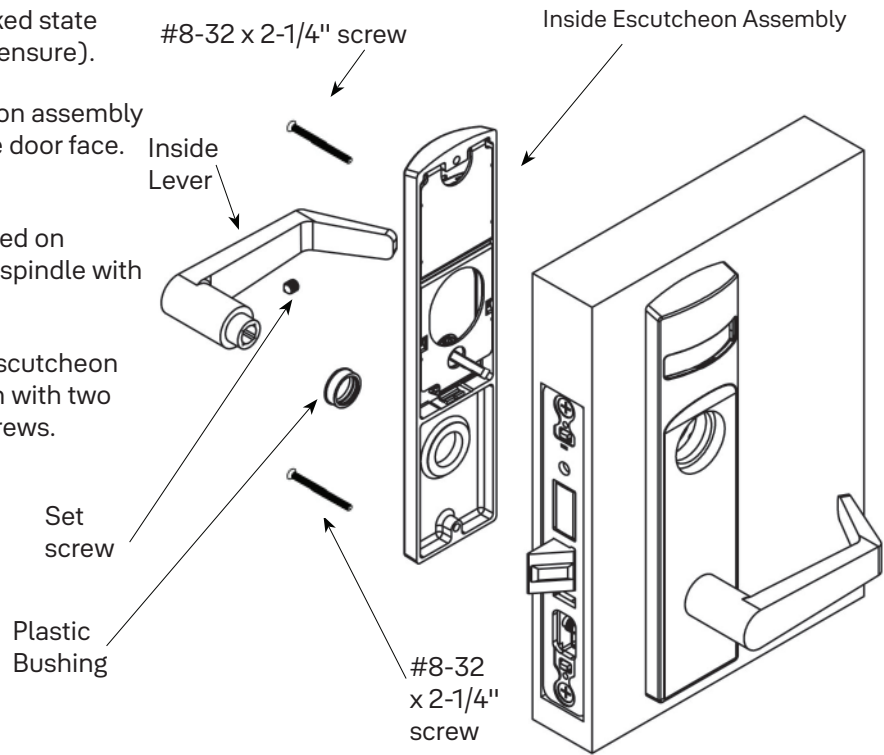

Figure 8
2. Align inside escutcheon assembly and install onto inside door face. (Figure 8)
4. Through-bolt inside escutcheon to outside escutcheon with two (2) #8-32 x 2-1/4" screws.